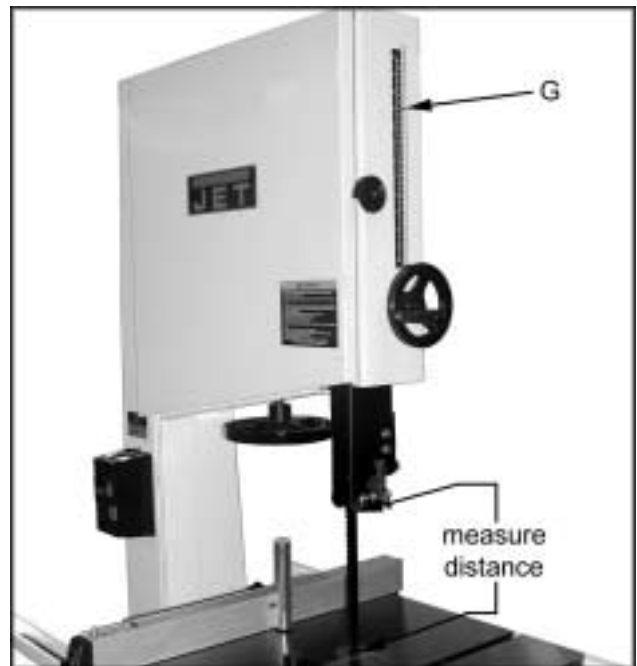

Fig. 15
4. Set the indicator to this measurement on the height scale. Grasp the end of the indicator (G, Fig. 15) between your finger, and thumb. Move the indicator into position.